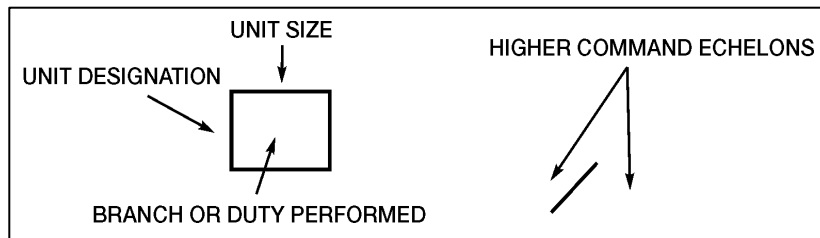

Figure 071-329-1019-3. Development of Unit Symbol
c. Unit-size symbols (figure 071-329-1019-4).